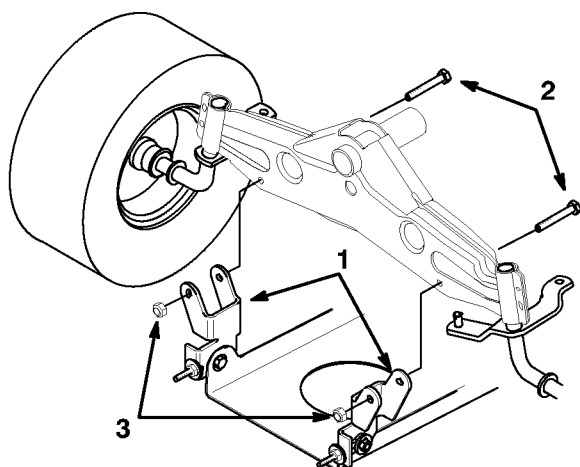

Figure 44
5. Install the mower pivot mount brackets to the front axle with bolts and lock nuts (Fig. 44).